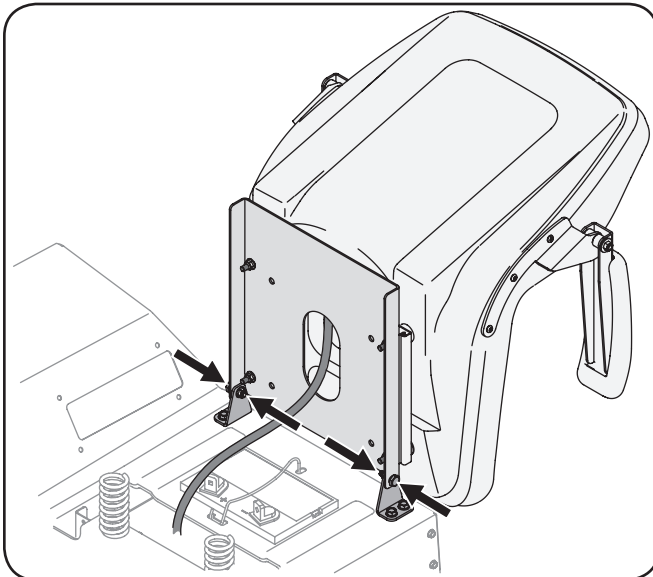

Figure 3-7
3. Rotate the seat into position and secure the seat into place with the previously removed shoulder bolts and lock nuts. Be careful not to crimp or damage the wire harness while installing the seat. See Fig. 3-7.